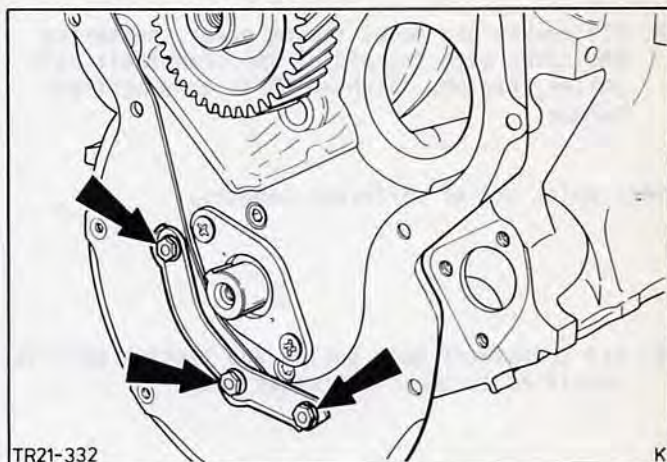

Fig.55. Intermediate plate reinforcement.
40. Coat outer periphery of front end of the cylinder block and the back of the front intermediate plate with sealing compound. Locate the gasket and fit the intermediate plate to the cylinder block with the reinforcement, only tightening finger-tight, Fig.55. Insert two further screws in the bottom holes in the intermediate plate for guidance. Remove these once the intermediate plate and reinforcement have been tightened down.